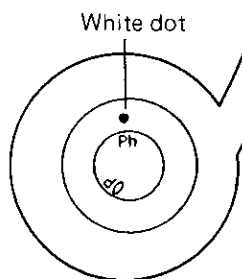

Fig. 12B
- c. When observing a specimen of high reflectivity, set the Vertical illuminator by turning the beam-splitter knob to align the **Ph** mark with the white dot on the body. (Fig. 12B)